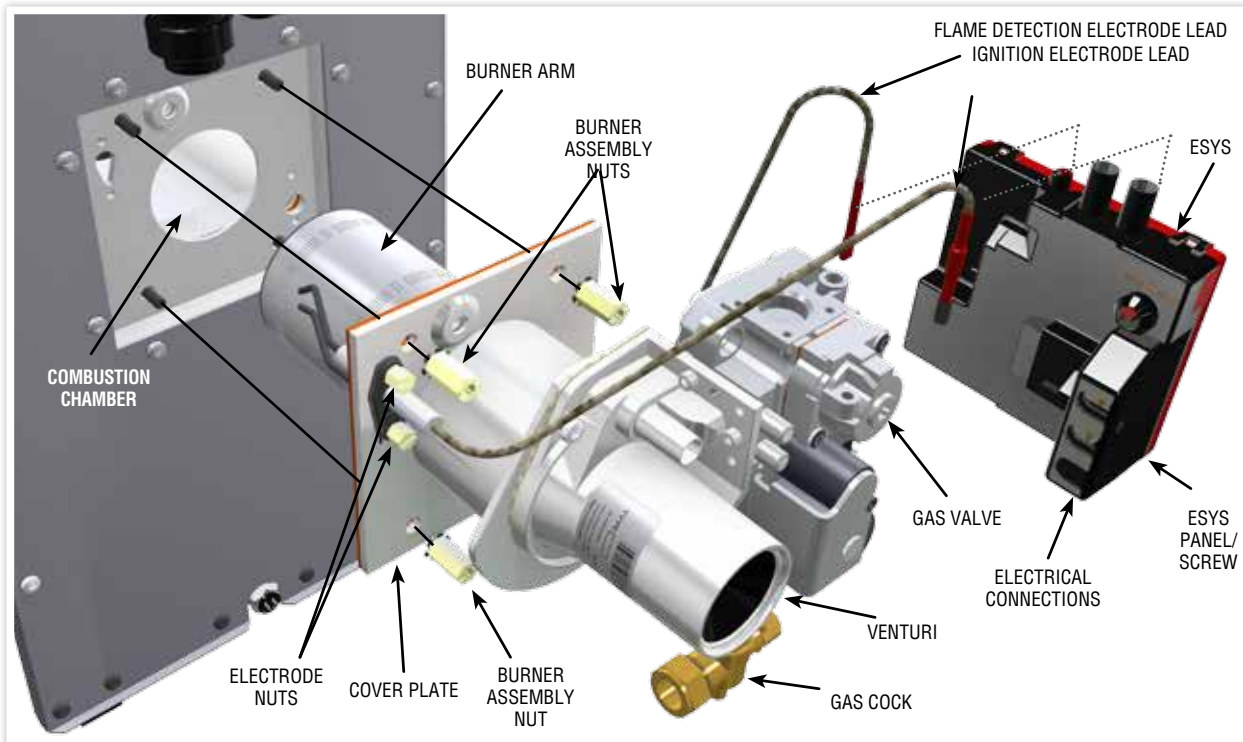

FIGURE 19. MAIN BURNER ASSEMBLY REMOVAL
- 16.4.1 Refer to section 16.3. See Figure 19.
- 16.5.1 Refer to section 16.3. See Figure 19 & 20.
16.6.1 Refer to section 16.3 and 16.4. See Figure 19.